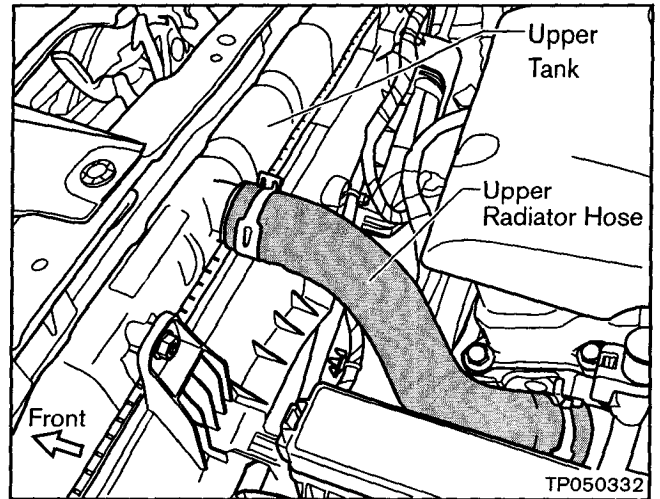

Figure 12
- c. After the upper tank is empty, disconnect the Upper Radiator Hose from the Radiator (see Figure 12).